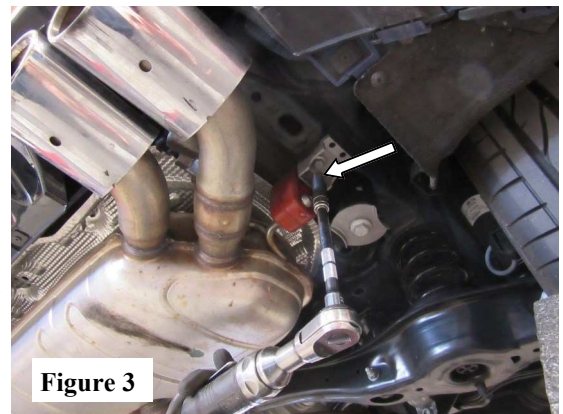

Figure 3
4. Using a muffler stand or an additional person to support muffler assembly, remove (2) 13mm bolts on hangar brackets on rear muffler. Remove the system keep the hardware for installation of your new exhaust system. (See Fig. 3)